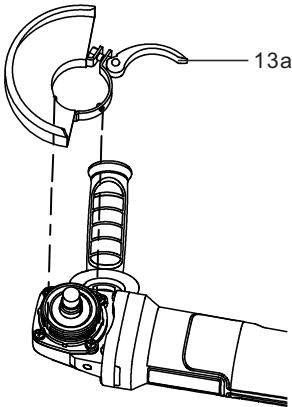

Fig. 5
2. Align the noses on the ring to the notches on the spindle collar, and then rotate the guard (Figs. 5, 6).